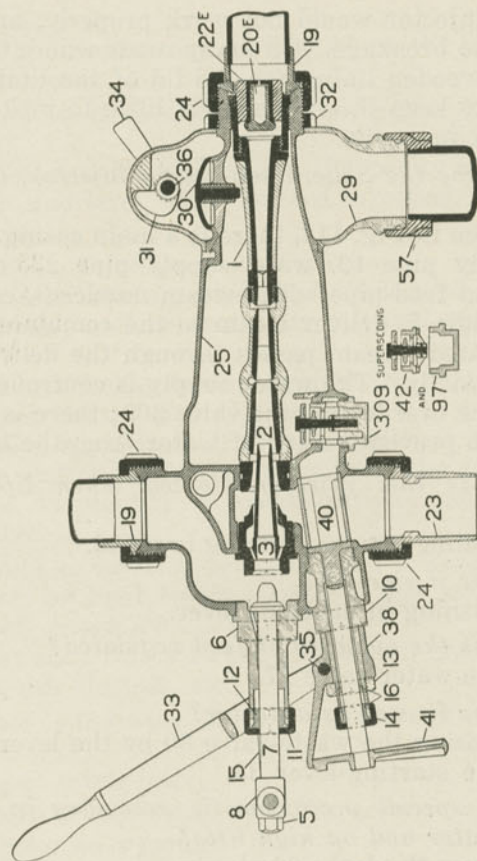

Fig. 112. Sellers' Self-acting Injector, Type NS.
A. As seen in Fig. 112, there is a main casing 25, with steam-supply pipe 19, water-supply pipe 23, overflow-pipe 57, and feed-pipe. The steam nozzles 3, controlled by the spindle 7, deliver steam to the combining-tube 2 and the heated stream passes through the delivery tube 1, issuing axially. The water supply is controlled by the valve 17; the overflow by the valve 309; there is a check-valve 20e to prevent return of water from the boiler.